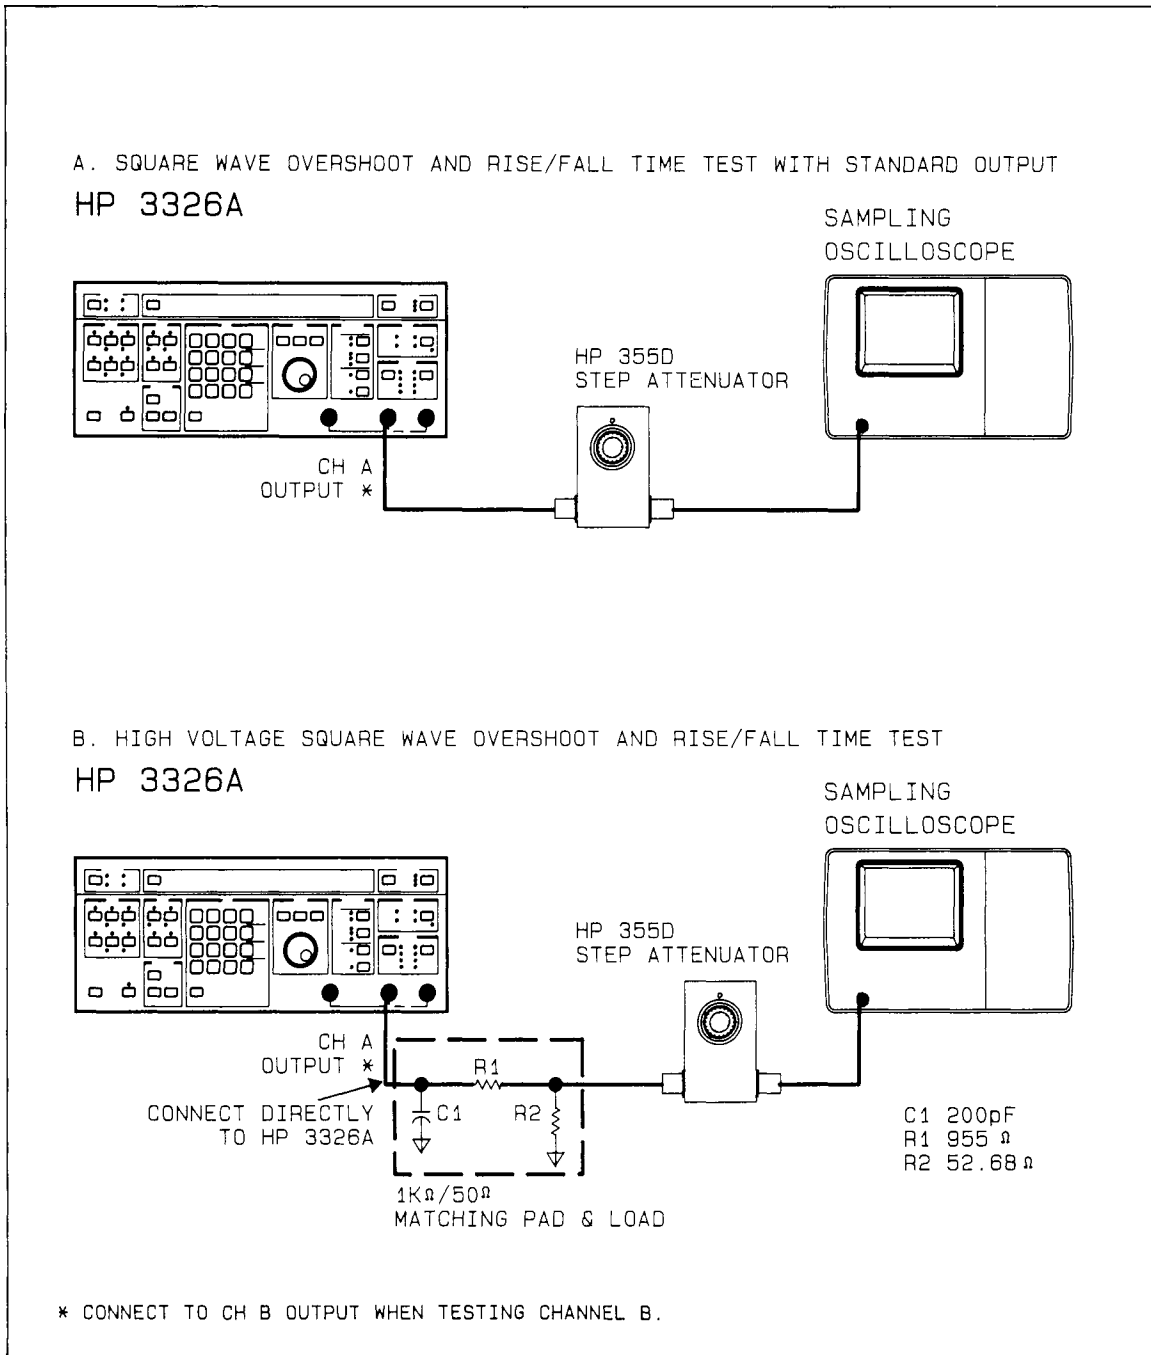

Figure 2-12. Square Wave Overshoot and Rise/Fall Time Test
2. Connect the test equipment as follows (illustrated in Figure 2-12(A)):
2. Connect the test equipment as follows (illustrated in Figure 2-12 (B)):